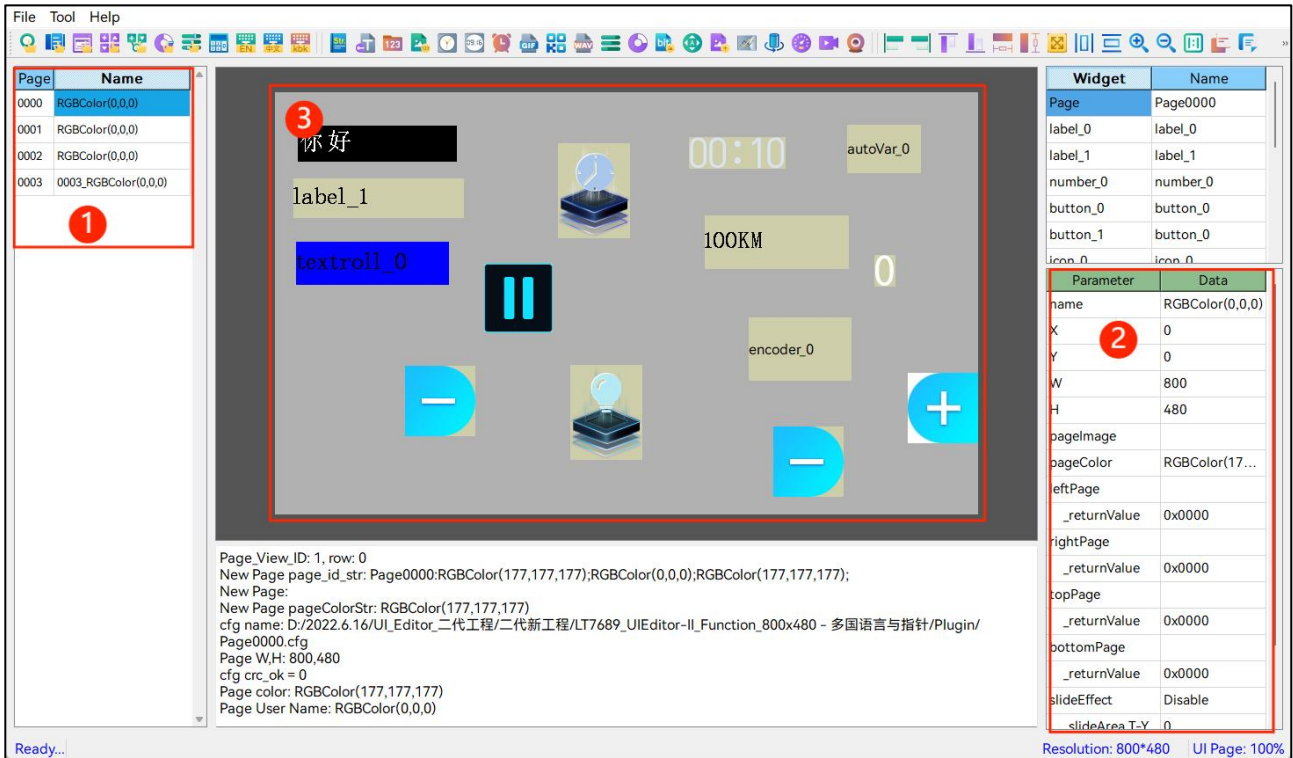

Figure 5-1: Check Page Parameters
As shown in Figure 5-1, ②, this area lists all the page parameters. To review certain page' s parameters, developers may (1) select from the page list, as shown in Figure 5-1, ①; (2) click on the editing area (not on any widgets), as shown in Figure 5-1, ③.